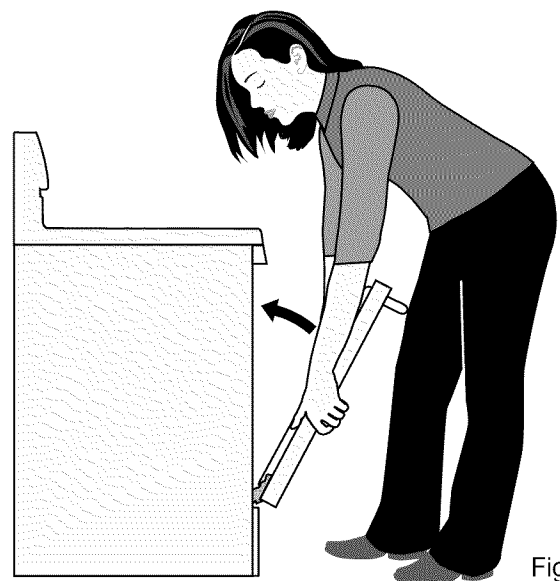

Fig. 3
3. Firmly grasp both sides of oven door -*Fig. 3*-. Before completing this step, be prepared to hold the whole weight of the door while grasping the sides of the oven door with both hands. Hold midway down the oven door sides. Close the oven door to about 4 inches and continue closing beyond the door stop position. The oven door should release from the frame on its own. -*Fig. 3*-. Carefully lift door away evenly, slightly up and out until both hinge arms are clear of the hinge slots in the oven frame -*Fig. 3*-. After door has been removed, be sure to lay the door flat with the inside of the door downward (never rest the oven door with any weight on the door handle).